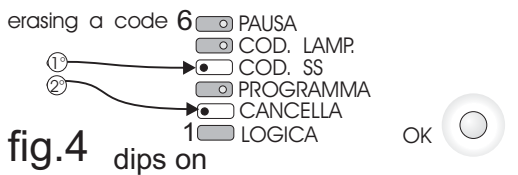

fig.4
- ERASING AN SS CODE (see fig.4) :